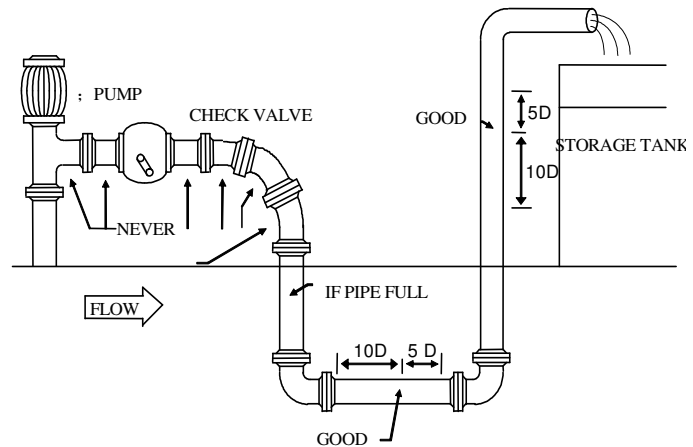
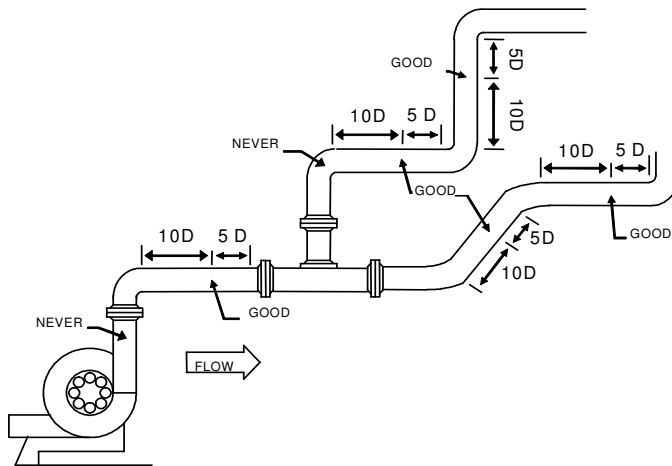

Figure 2-10 Measuring Point Selection
Figure 2-11 Installing the Transducers (example)
- Choose a section of pipe where the pipe material is homogeneously and compactly formed and the ultrasonic signal can be easily transmitted. Measuring point selection is illustrated in Figure.2-10 and Figure.2-11.